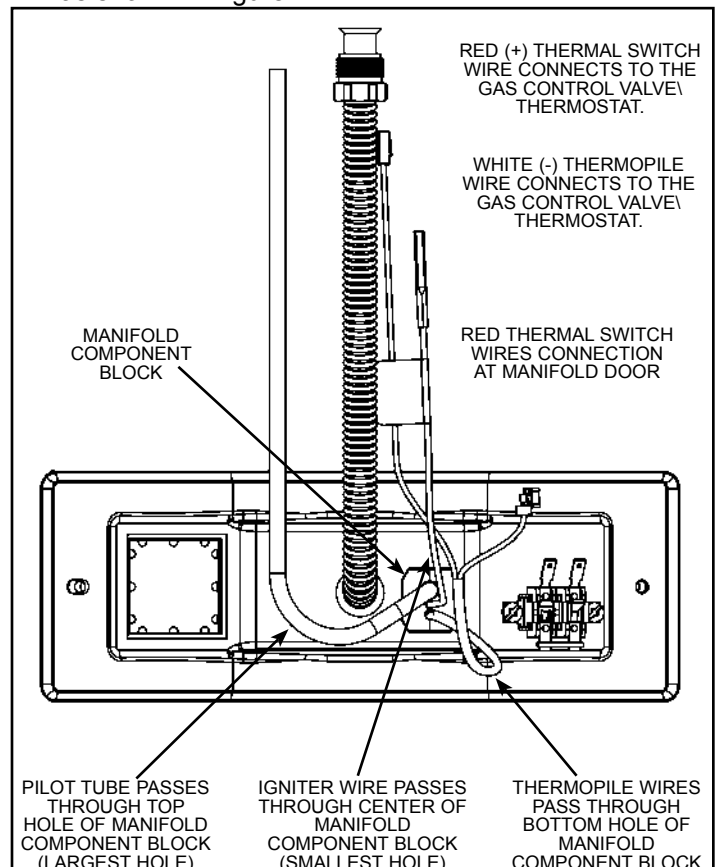

Figure 24 Manifold Door External Components
9. Reinstall the manifold component block in the manifold door. Ensure that the pilot tube and wires are positioned as shown in Figure 24.